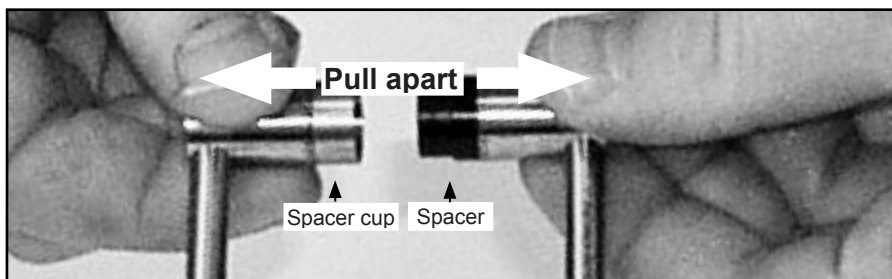

Fig. 3.8 Changing the spacer
1. Dismantle the probe head by pulling the spacer out of the spacer cup (Fig. 3.8)